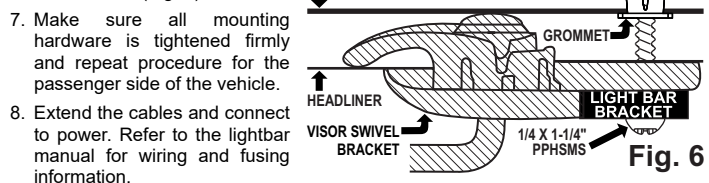

Fig. 6
5. Secure the lightbar bracket to the swivel mount using the supplied 1/4 X 1-1/4" Phillips Pan Head Sheet Metal Screw. This screw will thread into the fastex grommet you installed in step 2 and the bracket sits where the cover was (Fig. 6).